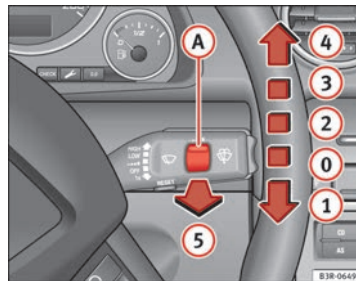

Fig. 100 Windscreen wiper lever
The windscreen wiper lever ⇒ Fig. 100 has the following settings:
- With the lights switched on, operate the automatic wash and wipe ⇒ Fig. 100 ⑤, and keep the lever pulled towards you for at least 1 second.